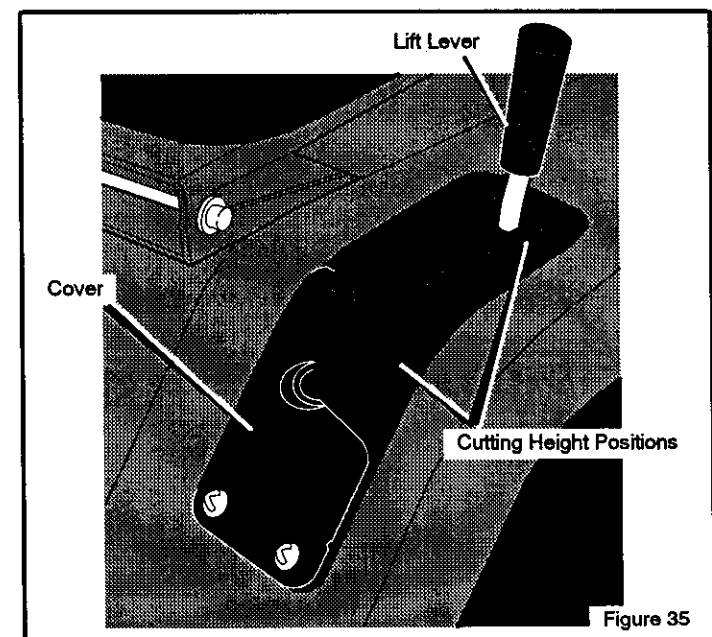

Figure 35
8. Raise the lift lever from the LEVEL ADJUSTMENT position to a CUTTING HEIGHT position (Figure 35).